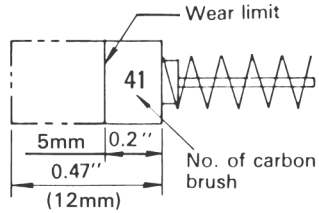

Fig. 12
4. Inspecting the carbon brushes(Fig. 12)